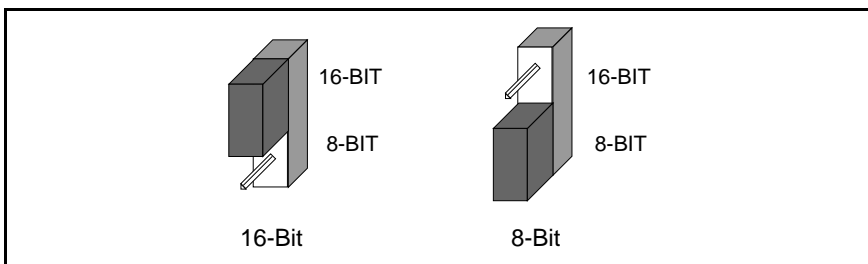

Figure 2-11. Jumper Settings for 8-Bit and 16-Bit Mode Operation
2. Change the jumper setting for 8-bit operation, as shown in Figure 2-11.